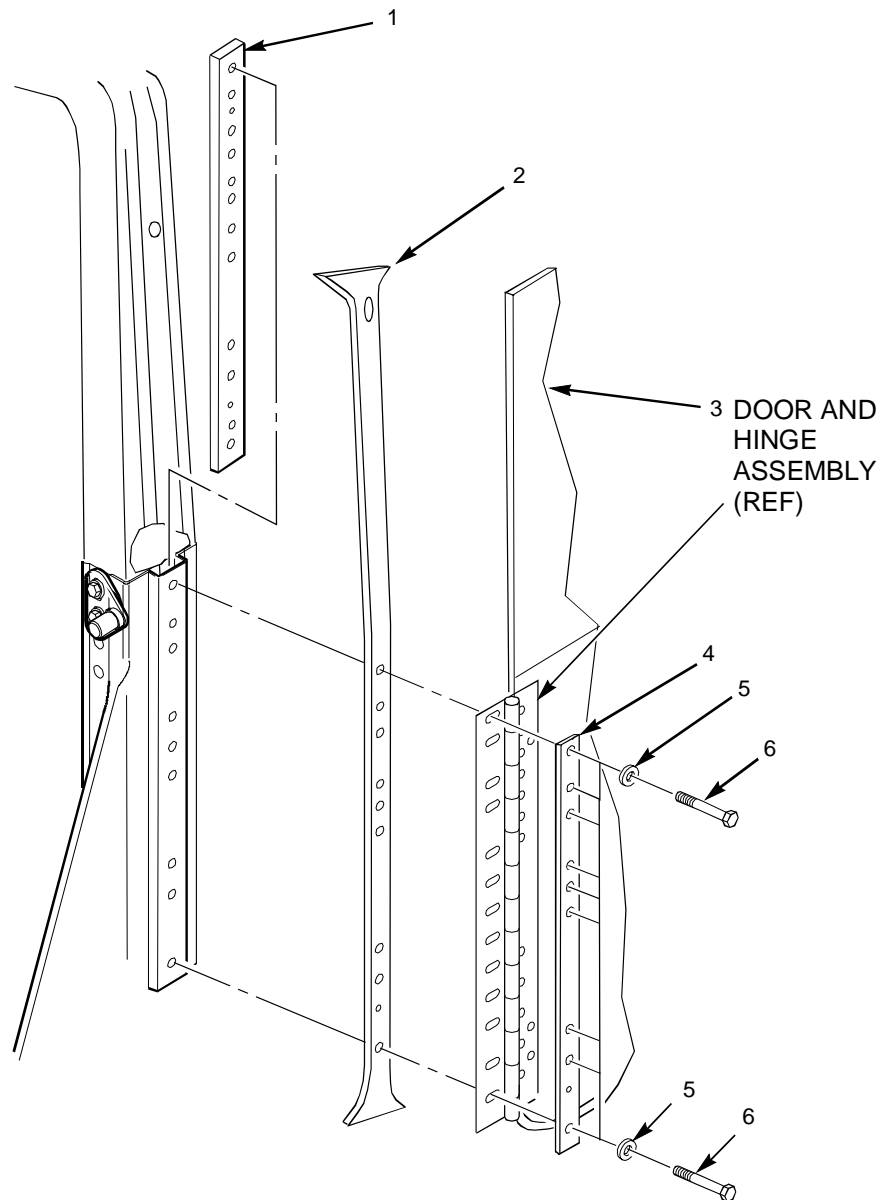

Figure 2-9. B-Pillar Armor Removal (2 and 4 Door)
3. Remove B-pillar armor as follows (see figure 2-9).
- a. Remove nine capscrews (6), washers (5), and B-pillar cover strip (4).
- b. Remove door and hinge assembly (3), B-pillar armor (2), and B-pillar nut plate (1).